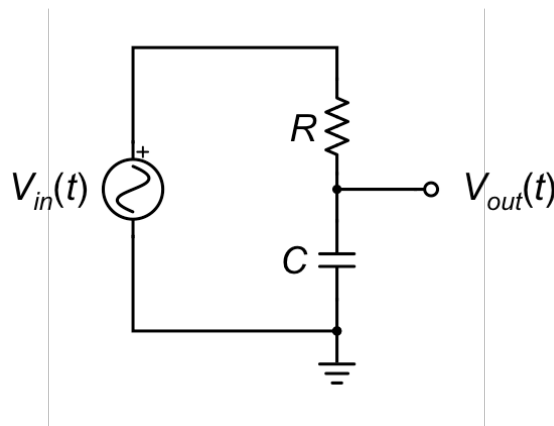

Figure 1 – The low-pass filter circuit.
In this portion of the lab, you will construct the RC circuit shown in Figure 1. You will then measure the peak-to-peak output voltage $|V_{out}|$ as a function of the driving frequency f . Copy the circuit diagram and table into your lab notebook.
2. Construct the circuit in Fig. 1 using $R = 2 \text{ k}\Omega$ and $C = 0.01 \text{ }\mu\text{F}$. Use the Extech handheld DMM to check the resistor before you put it in your circuit.